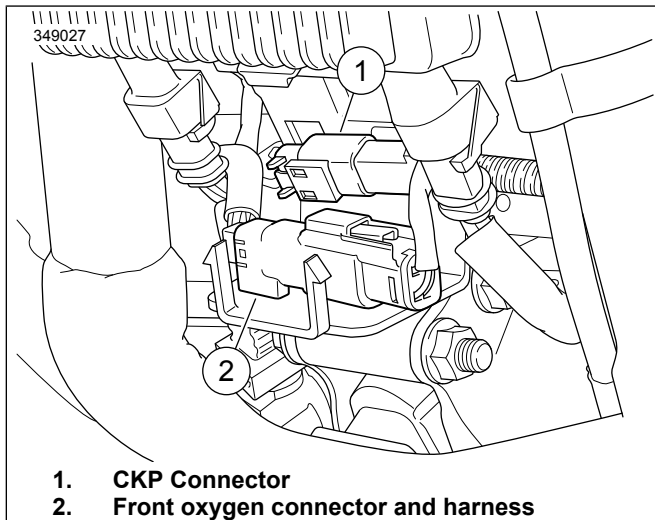

Figure 39. Front Oxygen Sensor Location
See Figure 39. Open front electrical caddy cover and disconnect front oxygen sensor connector (2). Remove connector housing from caddy.